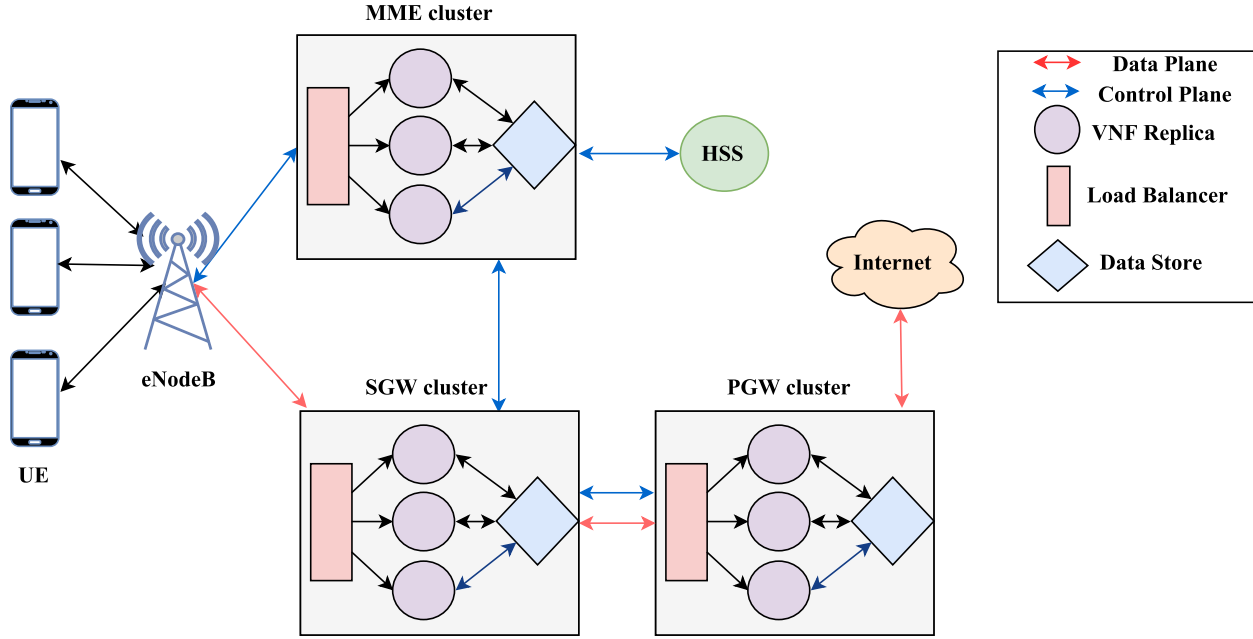

Figure 1: vEPC Setup.
1. vEPC 2.0 is a distributed design. It can contain many parallel replicas of LTE components. We describe here a three replica system. More replicas can be setup using the same procedure. Figure 1 shows virtual machine placement and interconnection of LTE components in the distributed setup. The system as per the Figure 1 contains two replicas for MME, SGW and PGW one HSS. Each of the MME replicas is identical to each other and are placed behind a load balancer. SGW and PGW also follow similar setup. A shared data store is also used for state sharing among the replicas. The setup also contains a ran-simulator which generates load for the